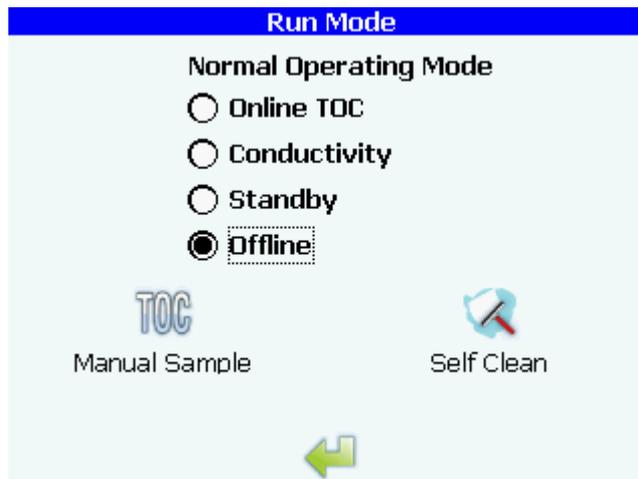

Figure 4-2 Run mode dialog box
- 3) At the run mode dialog box, touch the radio button that represents the desired run mode. See Figure 4-2.